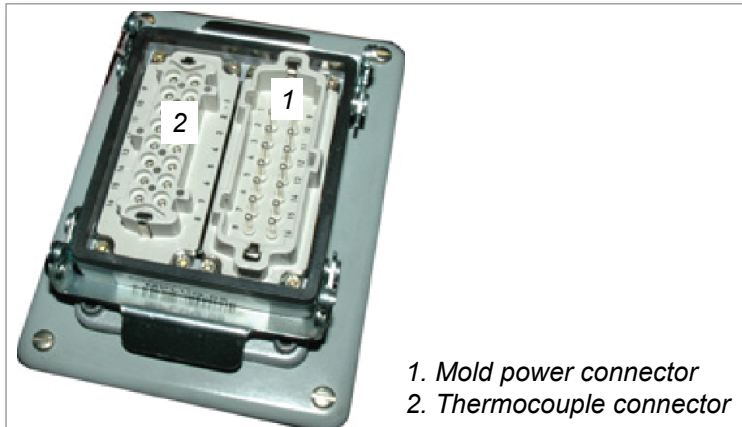

Figure 7-1 Mold plug
1. Measure the resistance between each pair of thermocouple wires on the mold's thermocouple connector. The resistance should be between 2.5 Ω and 25 Ω. See Figure 7-1.